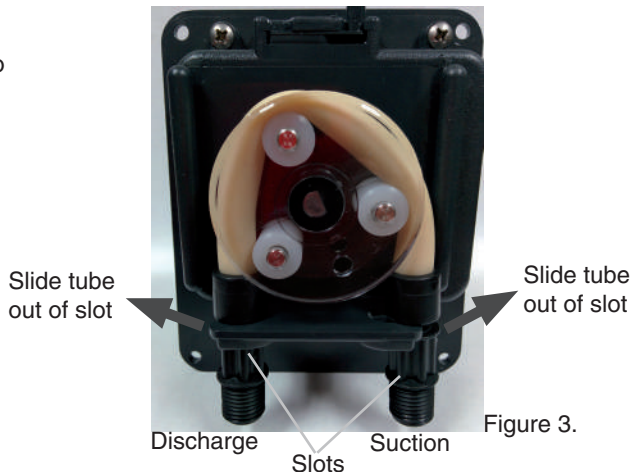

Figure 3.
3. Release the fittings from the slots to remove the tube. See Figure 3.